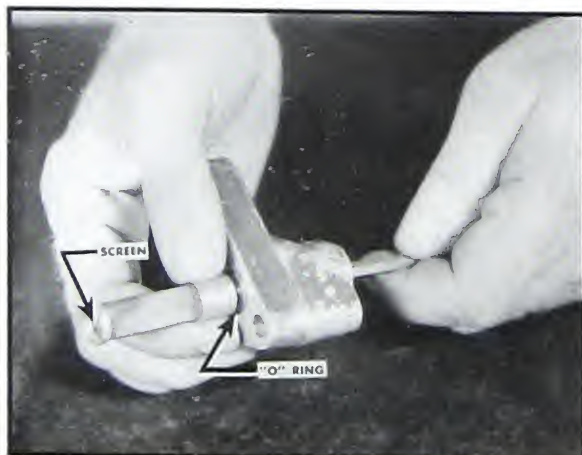

Fig. 5-253. Remove screen assembly
7. Press out the valve screen assembly. Fig. 5-253.